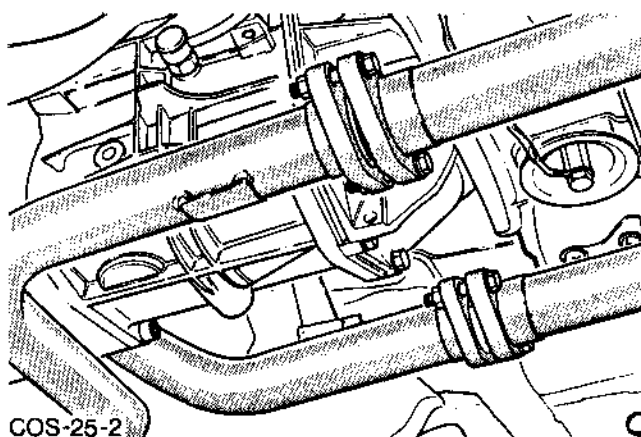

Fig.2. Front pipe flange connection.
1. Open hood, fit fender covers and disconnect battery. Disconnect front pipe to exhaust system flange joints (Fig.2).